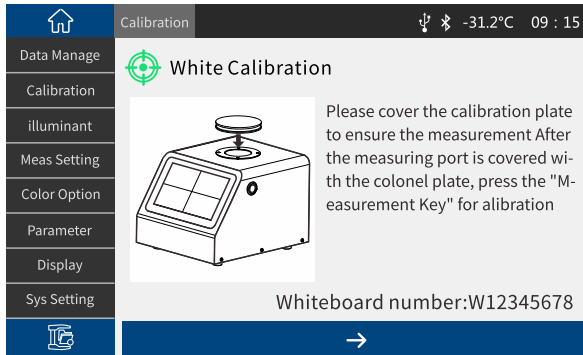

Figure 4 White Calibration
2. Within the calibration validity period, you need to click " → " to enter the calibration interface (Figure 4). After placing the whiteboard according to the prompts, press the measurement button to perform white calibration.